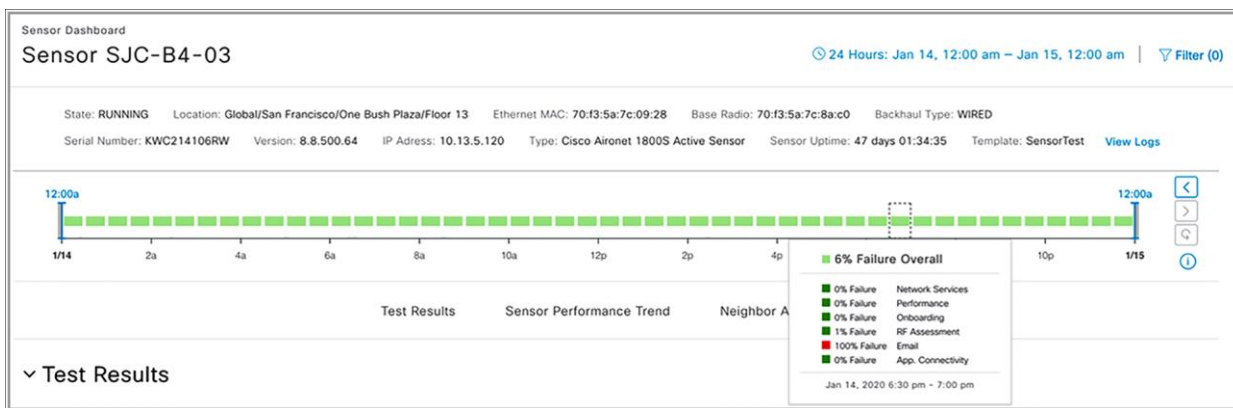

Figure 100.
1. Click the name of a sensor from any page (Wireless Sensors dashboard, Inventory, etc.) to enter the Sensor 360 page (**Figure 100**).